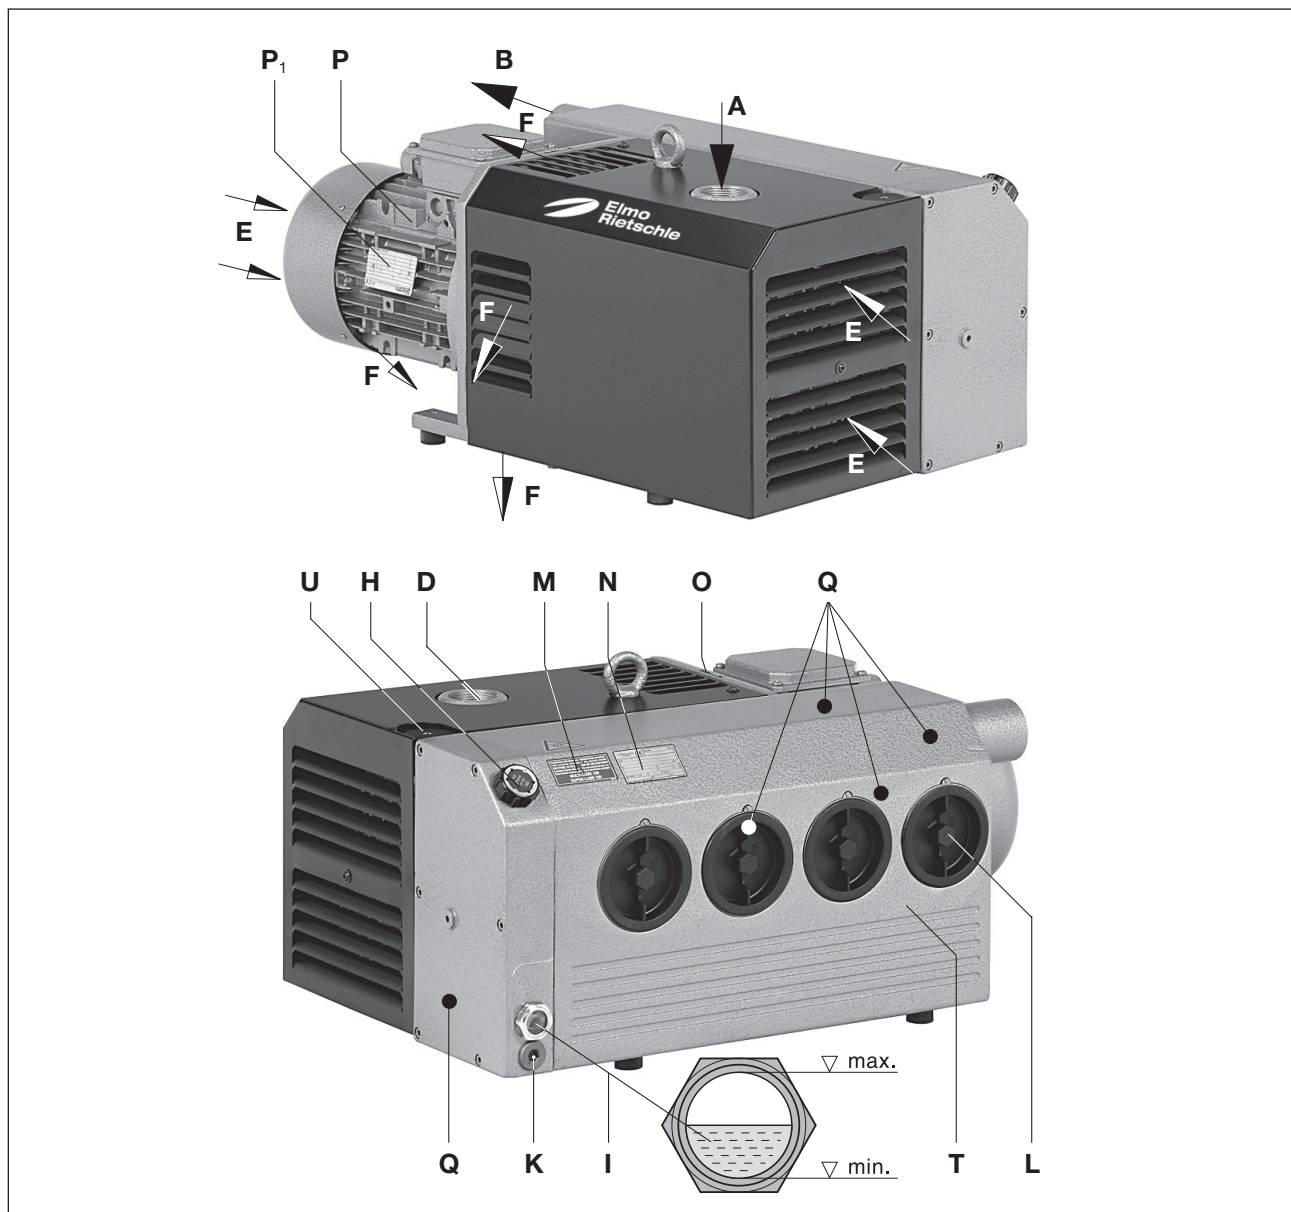

Fig. 2 Vacuum pump V-VC 50 - V-VC 150
A gas ballast valve fitted as standard (Fig. 2/U) prevents condensation of water vapour in the inside of the pump when low amounts of steam are sucked in when the pump is at operating temperature. A reinforced gas ballast (optional) can be used if there is a higher amount of water vapour.
The suction flange (Fig. 2/D), oil filling point (Fig. 2/H), oil sight glass (Fig. 2/I), oil outlet (Fig. 2/K), gas ballast (Fig. 2/U) and the oil removing device housing (Fig. 2/T) must be easily accessible. The cooling air inlets (Fig. 2/E) and the cooling air outlets (Fig. 2/F) must be at least 30 cm away from adjacent walls. Cooling air coming out must not be sucked in again. For maintenance work there must be a space of at least 40 cm around the machine.
Sealing or constricting of the exhaust air outlet (Fig. 2/B) may lead to severe or fatal injuries!
- a) The vacuum connection (Fig. 2/A) can be found on the suction flange (Fig. 2/D).
- b) The discharged air can be freely blown out through the exhaust air hole (Fig. 2/B) or conducted away using a hose or pipe.
- a) Fill the lubricating oil (for suitable types see the "Maintenance" section) via the oil filling point (Fig. 2/H) up to the upper edge of the sight glass (Fig. 2/I).
- a) The motor's electrical data is given on the data plate (Fig. 2/N) or on the motor data plate (Fig. 2/P₁). The motors comply with DIN EN 60034 and are in protection class IP 55 and insulation class F. The appropriate connection diagram is located in the motor's terminal box (not for the plug connection version). Compare the motor data with the data of the existing mains network (current type, voltage, network frequency, permitted current value).
When the machine is at operating temperature the surface temperatures on the components (Fig. 2/ Q) may go above 70°C. You must avoid touching the hot surfaces (marked with warning plates).